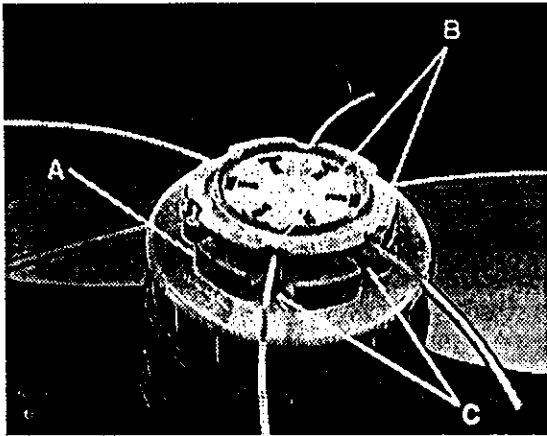

Fig. 3
2. Position the motor housing with the stringhead carrier (A) facing up (Figure 3).
3. Align disposable stringhead locking tabs (B) with corresponding slots (C) in carrier as shown (Figure 3).